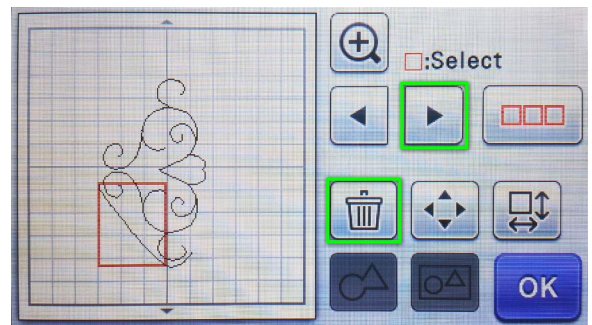

Figure 8
L. Tap on the **Right Arrow** on the screen to scroll through each element of the pattern. When an unwanted element is highlighted, tap on the **Trash Can** to delete it. Click **OK** when it asks you to confirm. (Fig. 8)